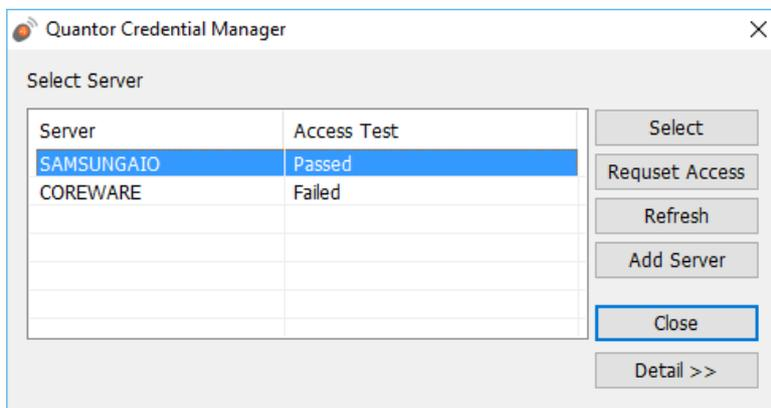

Figure 2.24 Selecting the Server
9. As shown in Figure 2.24, if the status of the Access Test is Passed, click the "Select" button.